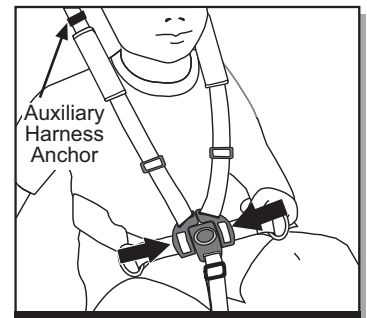

Fig. 18 Fasten Crotch Strap/ Buckle.
- Fasten shoulder straps. Insert both shoulder strap buckles into crotch strap buckle (Fig. 18).
NOTE: For heavier and or taller passengers (closer to the maximum limits above), auxiliary harness anchors may be utilized by unfolding anchor Velcro (Fig. 18), sliding buckles above anchors, and reconnecting Velcro to keep buckles in place.